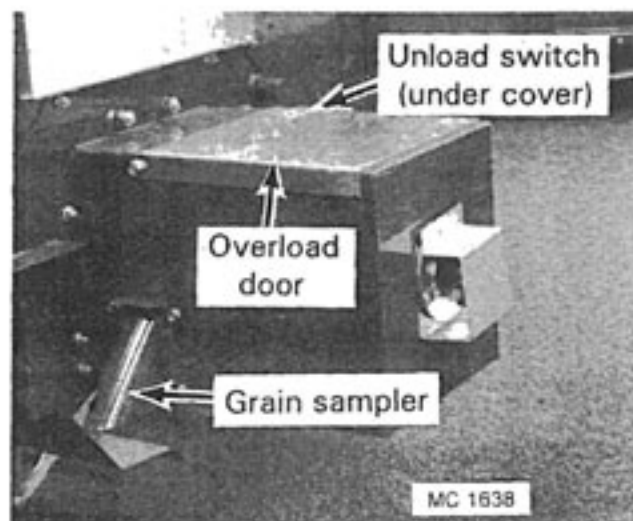

Figure 26
12. Test the moisture content of the grain being discharged every 15 minutes until it stabilizes. Use grain sampler on unload auger discharge housing. See Figure 26.
13. If the moisture content is too high after it stabilizes, turn the SCR Drive Speed Control down to a lower number to decrease the unloading speed. If it is too low, turn the speed control up to a higher number to increase the unloading speed. Avoid over adjusting. Make small changes in dial setting. Then wait (1) hour to allow dryer to react before making any further changes.
1. If the customer supplied grain take away system fails, the dryer will continue to discharge grain until the rear discharge overload door, Figure 26, is raised by the grain.